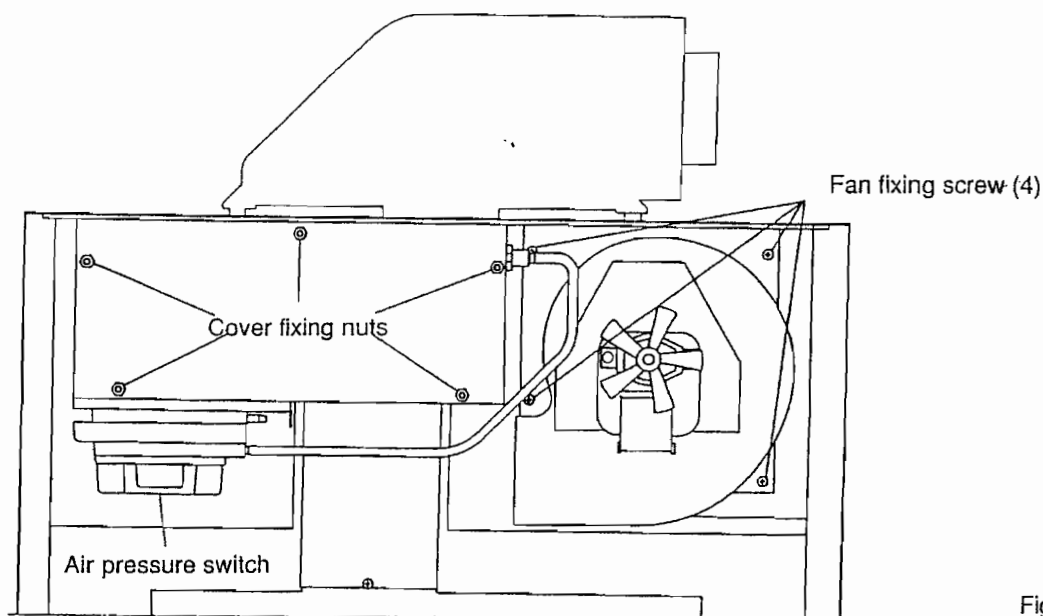

Fig. 45
- Remove the five screw securing the air collection plate (fig. 45), and withdraw the plate complete with the air pressure switch (Take care not to lose «P» clip).
- Re-assemble in reverse order (refer to fig. 45 for wiring).
- c) Unscrew the four fixing screws securing the fan remove air sensor tubes and withdraw fan (fig. 45).